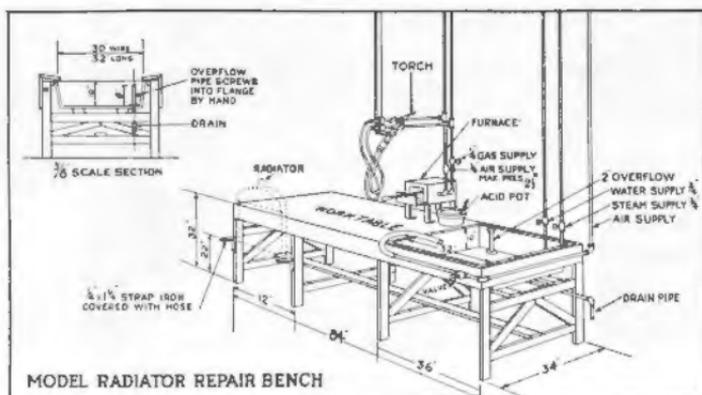

Fig. 402
806 The equipment necessary for repairing a radiator, while numerous is not expensive. The largest item of expense is the bench and test tank. The bench and frame for test tank may be built by the repairman and the tank and covering of the bench can be installed by a tinsmith although many service stations have performed their own work. Fig. 402 shows a good arrangement of bench and test tank, giving the necessary dimensions. The work table should be covered with sheet metal and the test tank should be given a coat of white enamel to keep the acid from attacking the metal and to make the water transparent. The steam pipe running into the test tank is for heating the water or if the operator wishes he may work in cold water.
- 819** Next, stand the radiator bottom side up on the bench hangers shown in Fig. 402, swing the reinforcement into place and solder it to the support (See Fig. 411). When this joint has set, solder it to the tank. To insure a strong joint, flow the solder well under the reinforcement clear down to end of tank.